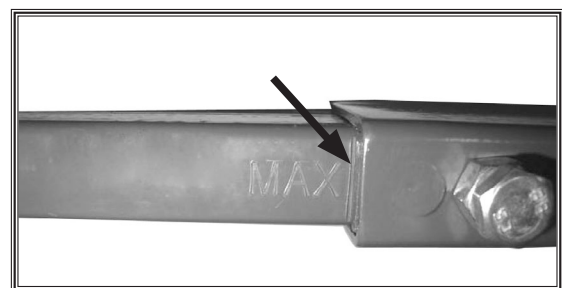

Figure 10. Maximum extension line on rail.
7. Make sure you do not extend the corner brackets beyond the "max" line marked on the rails, as shown in **Figure 10**. Extending the brackets beyond the maximum line may weaken the rail-bracket connections and strain the mobile base.